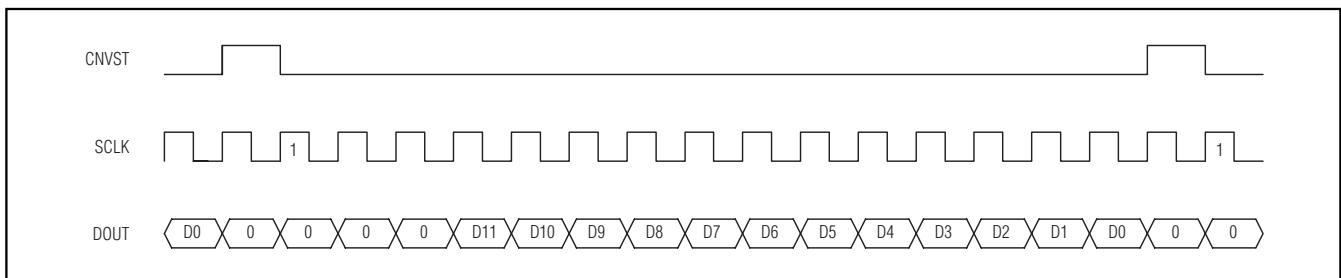

Figure 17. DSP Interface—Continuous Conversion
The MAX1276/MAX1278 can also be connected to the TMS320C54_ by using the data transmit (DX) pin to drive CNVST and the CLKX generated internally to drive SCLK. A pullup resistor is required on the CNVST signal to keep it high when DX goes high impedance and 0001hex should be written to the DXR continuously for continuous conversions. The power-down modes may be entered by writing 00FFhex to the DXR (see Figures 17 and 18).
and for an active-low frame (LTFS = 1, LRFS = 1) signal. This is also the best way to enter the power-down modes by setting the word length to 8 bits (SLEN = 1001). Connect the VL pin to the ADSP21_... supply voltage when the MAX1276/MAX1278 are operating with a supply voltage higher than the DSP supply voltage (see Figures 17 and 18).